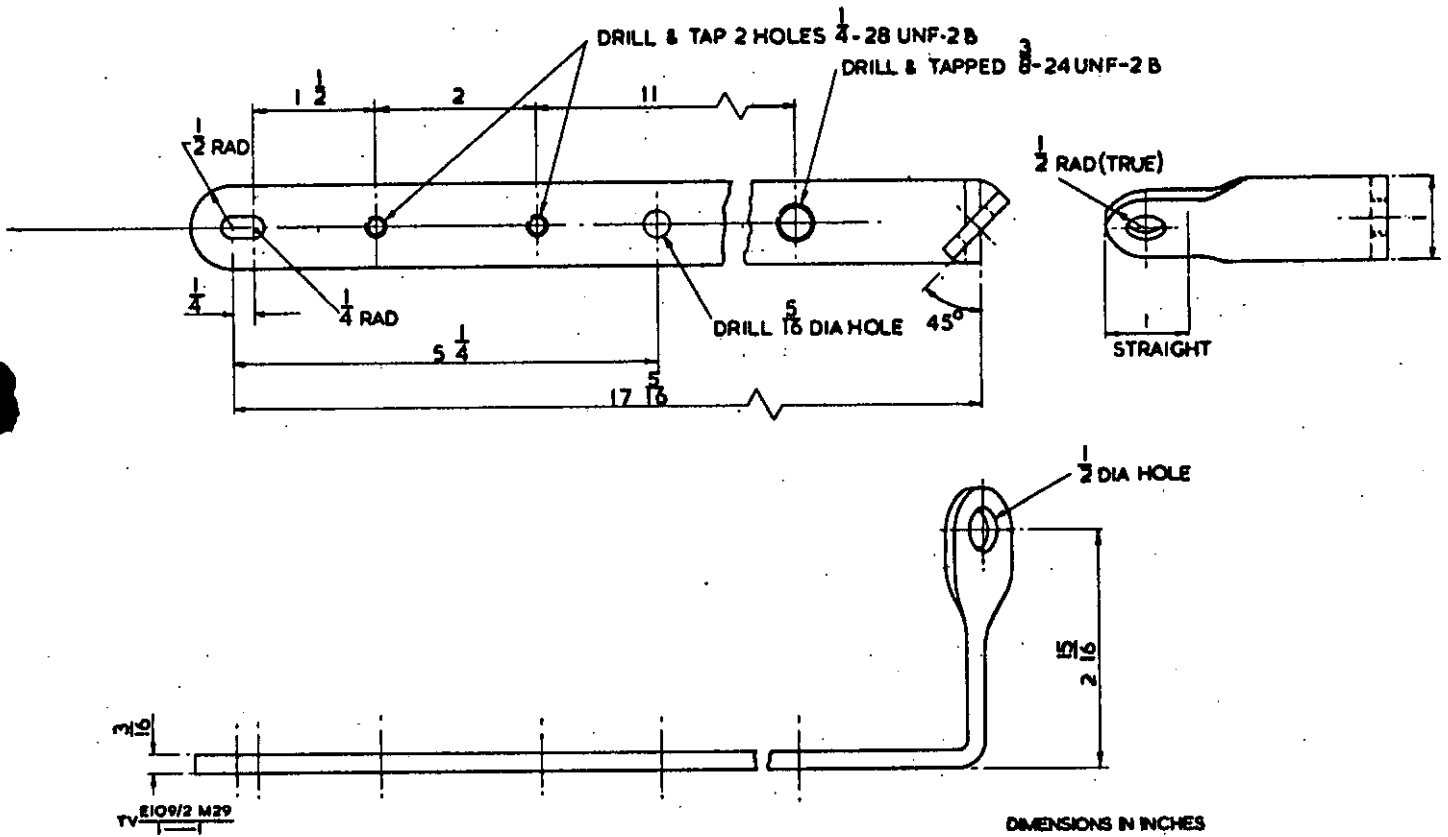

Fig 1 - Strut - details
a. See Fig 1. Manufacture a strut from the 3/16 in. mild steel bar listed in para 4 to dimension shown.